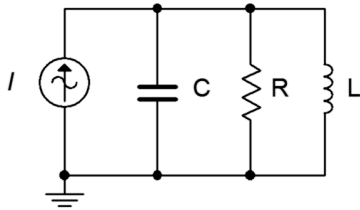

Figure 8.13
42. Investigate the “ Q increase” in reactive currents compared to source and resistive currents in a parallel resonant circuit. A simple way to verify this is by placing AC ammeters in each of the branches of the circuit shown in Figure 8.13. Use $R = 630 \, \Omega$, $C = 40 \, \text{nF}$, $L = 10 \, \mu\text{H}$ and $I = 1 \, \text{mA}$. It is worthwhile to compare sets of simulations for different resistor values to see the current changes relative to the system Q . Slight variations of the source frequency may be required to reach the peak.